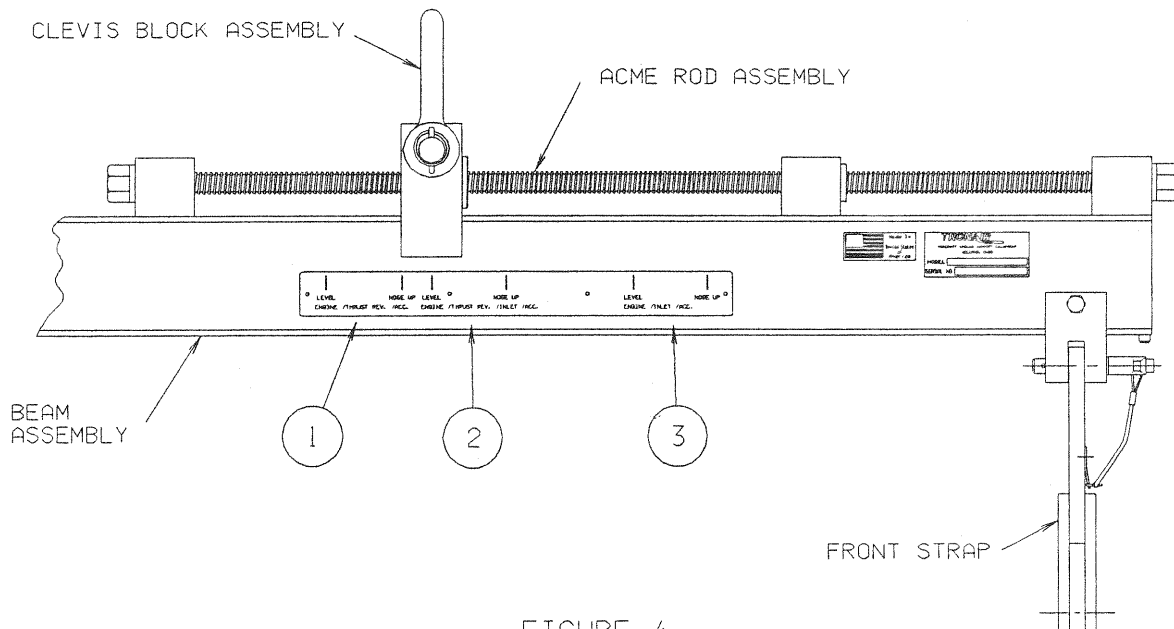

FIGURE 4
- G. The engine sling has three possible CG locations by configuration. Each engine configuration can be "level" or have the "nose up" depending on the position of the clevis block assembly. The clevis block assembly is moved by turning the acme rod assembly (see Figure 4).